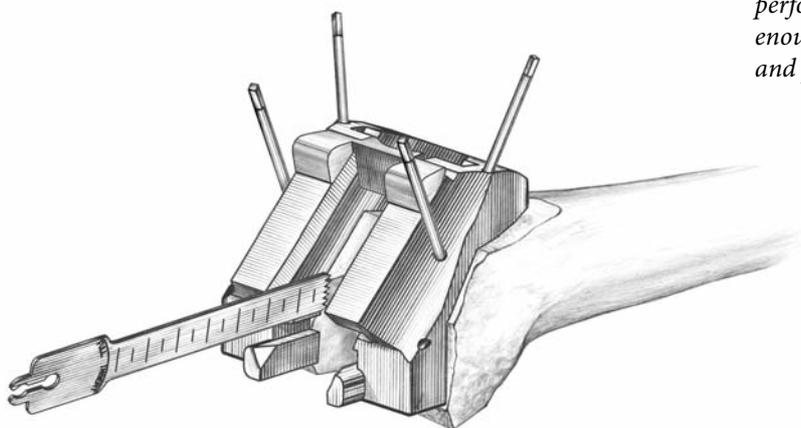

Figure 27
- ▶ Use a narrow saw blade, osteotome, or double-edged reciprocating saw blade and the Notch Saw Guide as a guide to cut distally through the entire depth of the intercondylar notch. (Figure 27).